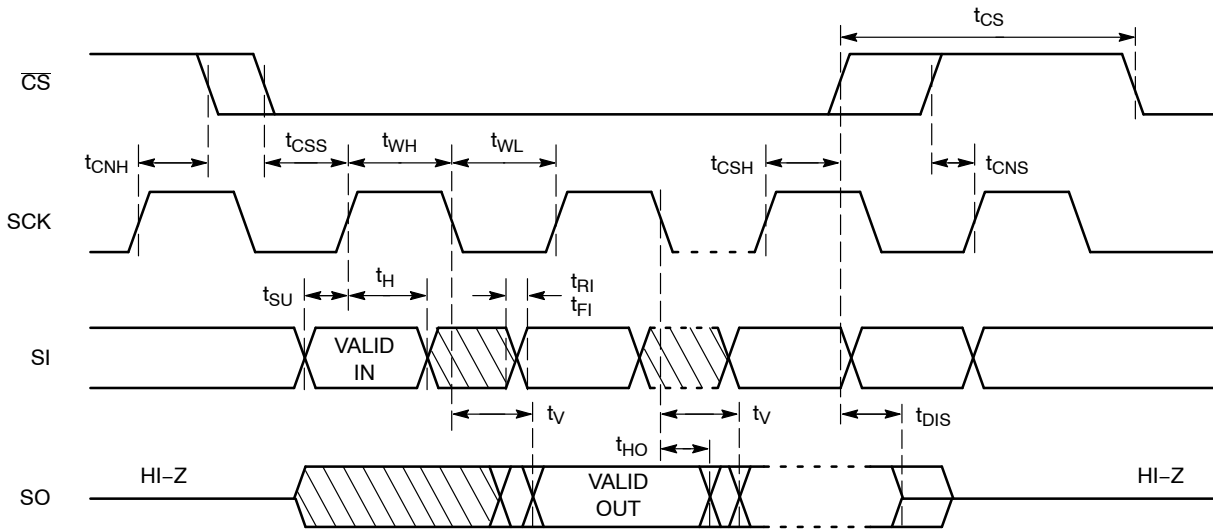

Figure 2. Synchronous Data Timing
7. t_{WC} is the time from the rising edge of CS after a valid write sequence to the end of the internal write cycle.8. **All Chip Select (CS) timing parameters are defined relative to the positive clock edge (Figure 2). t_{CSH} timing specification is valid for die revision E and higher. The die revision E is identified by letter “E” or a dedicated marking code on top of the package. For previous product revision (Rev. D) the t_{CSH} is defined relative to the negative clock edge.**
After a high to low transition on the $\overline{\text{CS}}$ input pin, the CAT25640 will accept any one of the six instruction op-codes listed in Table 9 and will ignore all other possible 8-bit combinations. The communication protocol follows the timing from Figure 2.